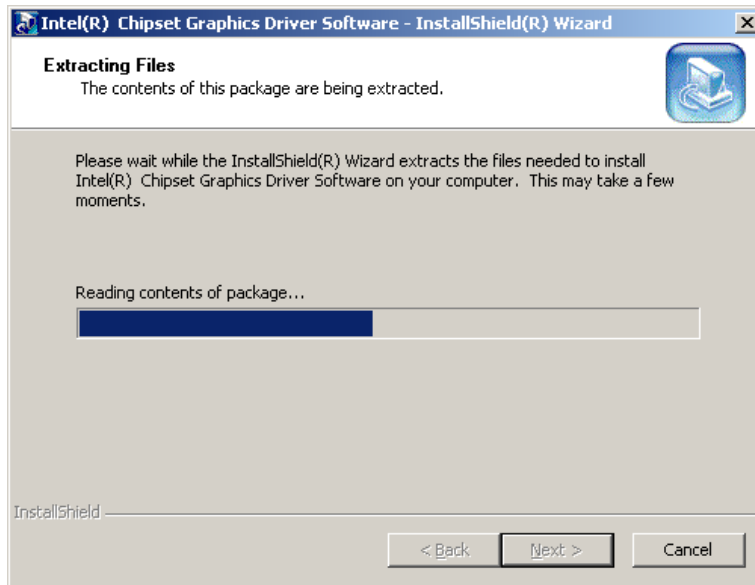

Figure 7-11: InstallShield Wizard Extracting Files
Step 6: A new window appears (**Figure 7-11**).
Step 9: Read the Readme file information and click **NEXT** to begin extracting files (Figure 7-11).